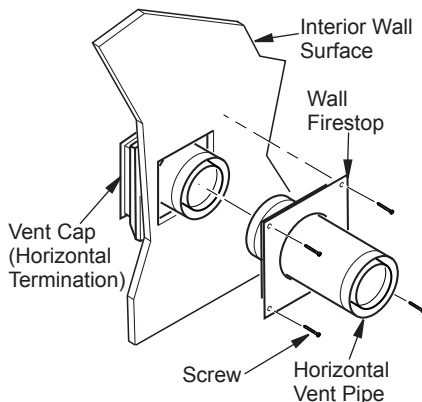

Figure 12 - Connecting Vent Cap with Horizontal Vent Pipe
6. **Connecting Vent Cap with Horizontal Vent Pipe:** Slide wall firestop over vent pipe before connecting horizontal run to vent cap (see Figure 12).